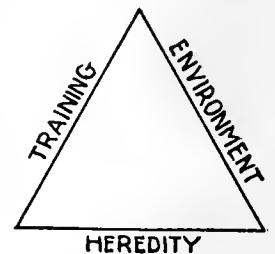

FIG. 372
Can mankind be improved? What a person is or becomes is determined by the influences of three great factors: (1) *heredity* or the characteristics transmitted to him by his ancestors, (2) *environment* or his surroundings, and (3) *training* or what he does. These three factors may be represented in the form of a triangle (see Fig. 372). Heredity is made the base of the triangle because an individual cannot change his heredity. Environment and training, the two sides of the triangle, may be modified with resulting changes in the individual.